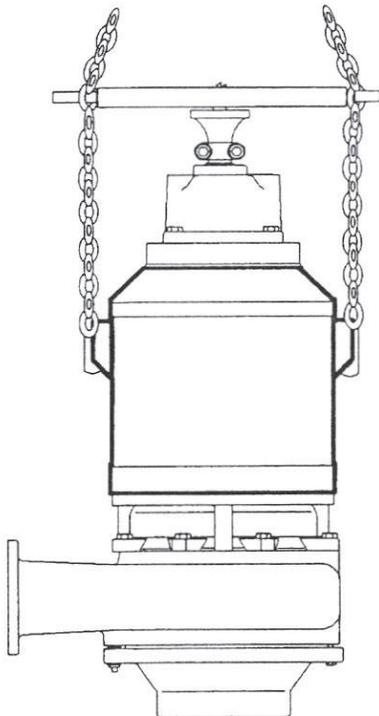

FIGURE E-3. REMOVING COOLING JACKET
2. See FIGURE E-3. Use a spreader bar to protect the motor cover and components, and secure the hooks of the lifting device to the ears on the cooling jacket (402, FIGURE E-2).
1. Remove any caked dirt, and carefully wash the internal surface of the cooling jacket (402). Dry all surfaces.
2. Disengage the hardware (233), and remove the lifting handle (231) from the motor housing (302).
3. See FIGURE E-3. Use a spreader bar to protect the motor cover and components, and secure the hooks of the lifting device to the ears on the cooling jacket.
4. Lift the cooling jacket above the motor assembly, and note the position of the fins on the interior of the jacket. The longest fin must go into the slot next to the screw plug (268) in the motor housing (302). Align the cooling jacket, and lower it over the motor housing.